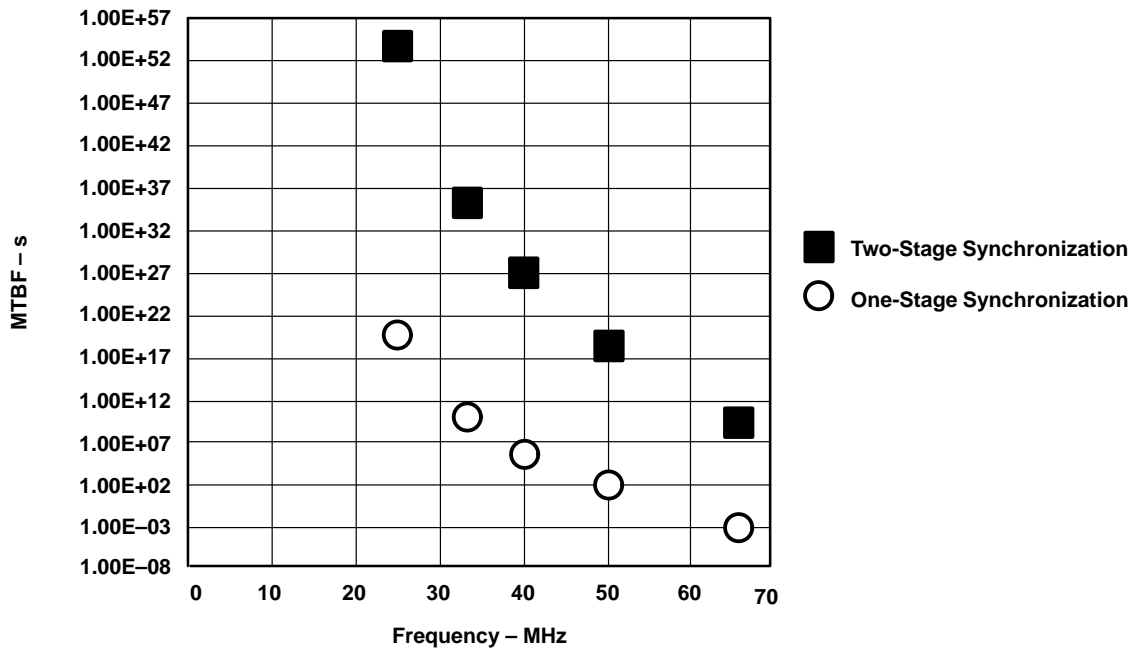

Figure 1. MTBF for Metastability as a Function of Frequency
As system operating frequencies continue to increase in excess of 33 MHz, designers must begin to address the issues of overall system reliability due to increased chance of a metastable event occurring. A metastable event is defined as the time period when the output of a logic device is neither at a logic high nor at a logic low but rather in an indeterminate level. The chance of a metastable occurrence is exponentially increased if single-stage synchronization is employed, as in the case of the '722xx synchronous-style devices versus the two-stage synchronization that is implemented by Texas Instruments (TI) (see Figure 1). The following information assists designers in understanding and improving upon the metastable characteristics of '722xx synchronous-style devices and their reliability.